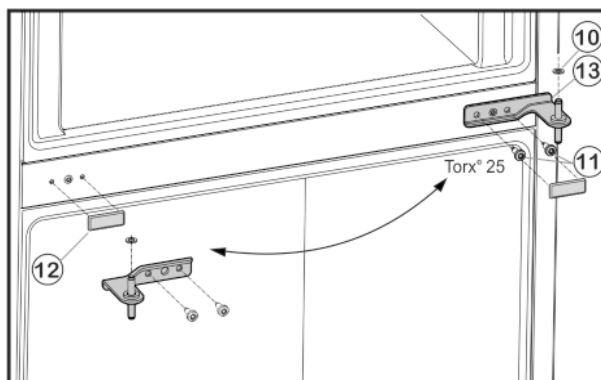

Fig. 5
- ▶ Unscrew the fastening screws Fig. 5 (11) (2 x Torx® 25) and pull the centre bearing block out of the lower door.
- ▶ Remove plastic washer Fig. 5 (10).
- ▶ Remove the cover Fig. 5 (12) carefully.
- ▶ Re-install the cover Fig. 5 (12) on the opposite side.
- ▶ Insert the centre bearing block Fig. 5 (13) turned through 180° into the lower door and fasten firmly (**with 4 Nm**) to the new hinge side with the fastening screws (2 x Torx® 25).
- ▶ Refit plastic washer Fig. 5 (10).